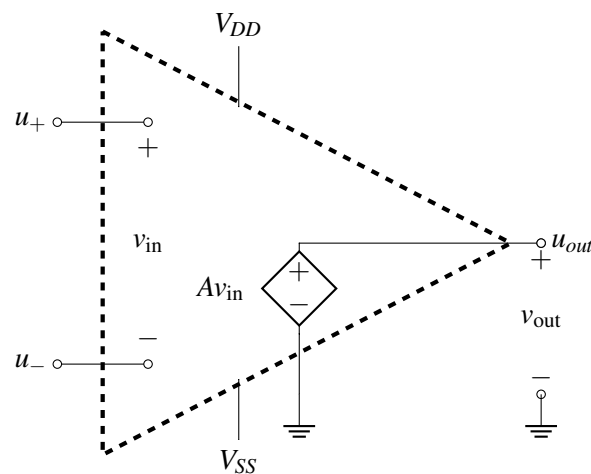
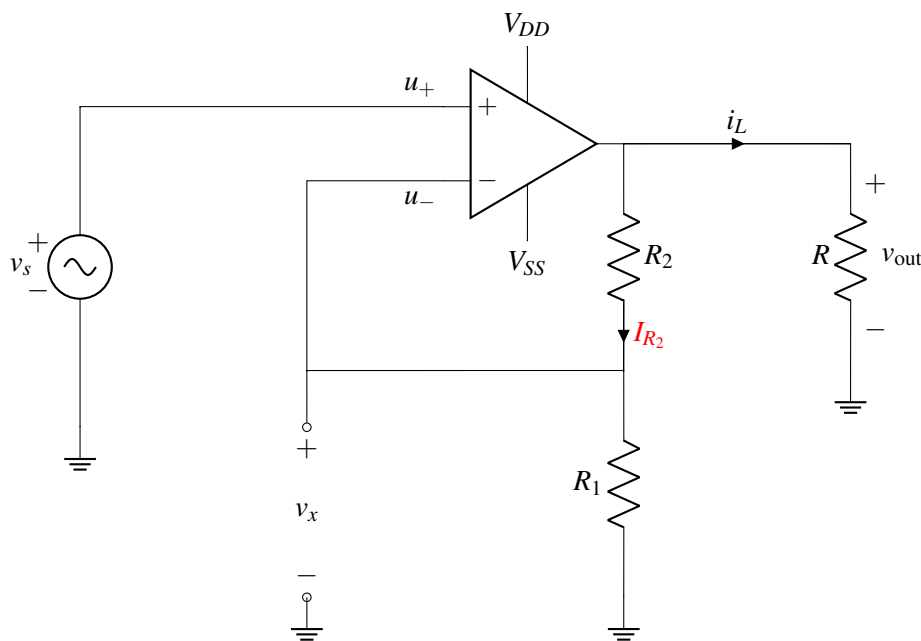

Figure 1: Op-amp model
Figure 2: Non-inverting amplifier circuit
In this question, we analyze op amp circuits that have finite op amp gain A . We replace the op amp with its circuit model with parameterized gain and observe the gain’s effect on terminal and output voltages as the gain approaches infinity. Figure 1 shows the equivalent model of the op-amp. **Note here that $V_{SS} = -V_{DD}$.**
- Consider the circuit shown in Figure 2, and again $V_{SS} = -V_{DD}$. What is $u_+ - u_-$?
- We will now examine what happens when A is not ∞ . To understand what happens in this case, first draw an equivalent circuit for Figure 2, **by replacing the ideal op-amp in the non-inverting amplifier in Figure 2 with the op-amp model shown in Figure 1.**